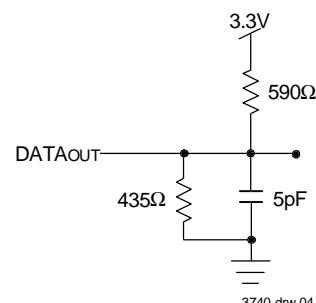

Figure 2. Output Test Load (for tLz, tHz, tWz, tOw)
1. Transition is measured 0mV from Low or High-impedance voltage with Output Test Load (Figure 2).